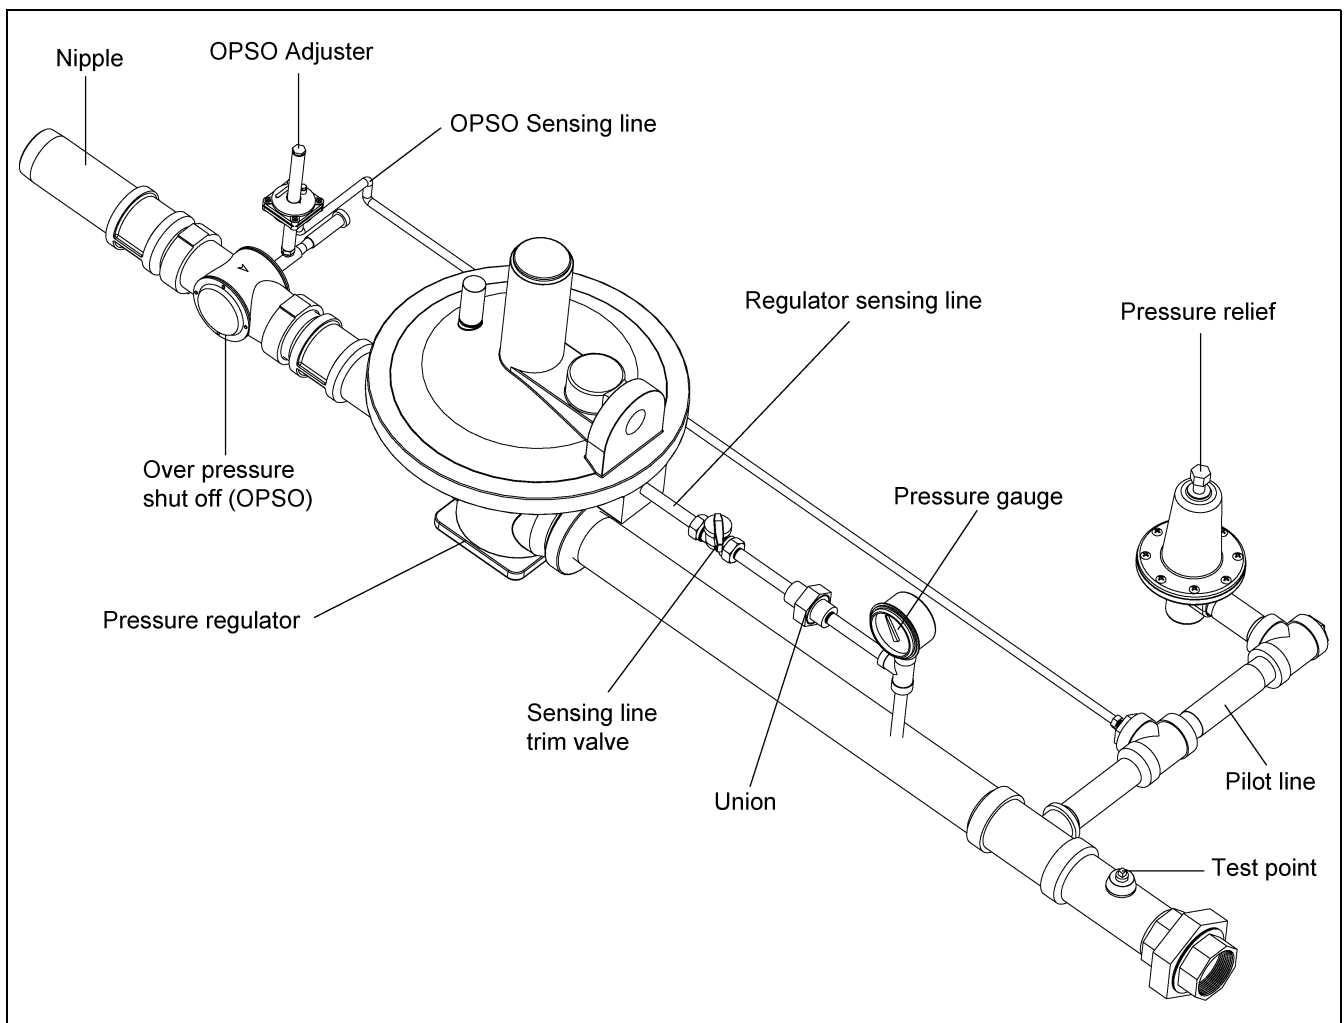

Figure 7D Regulator Section
- f. Read pressure at burner gauge. (See Figure 7D on Page 42.)
9. Read pressure at burner gauge. (See Figure 7D on Page 42.)